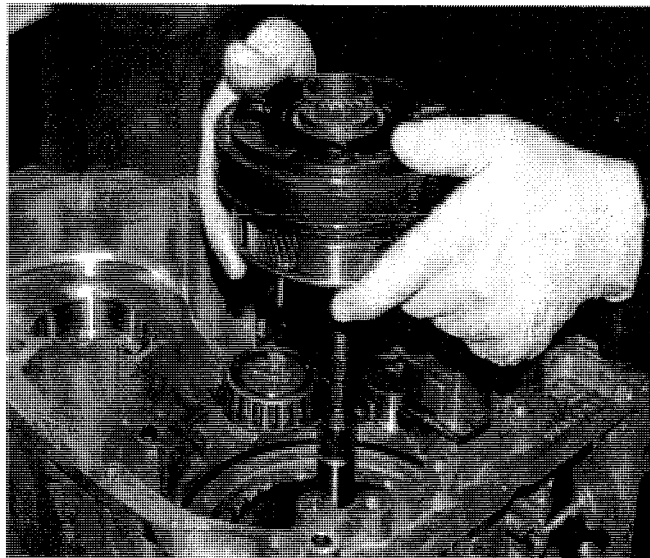

Fig. 15 Gear 4 Planetary Pinion Carrier Assembly
47. Install the Gear 4 Annulus and Planetary Pinion Carrier assembly. See (Fig. 15).